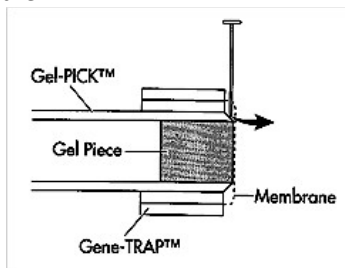

Figure 5: Pierce the membrane.
17. Place the GeneCAPSULE™ on a dry surface. Puncture a small hole in the membrane at the DNA collection port (see Figure5) with provided pin. Do not force the pin downward into the membrane; this will damage the membrane and spill the DNA.